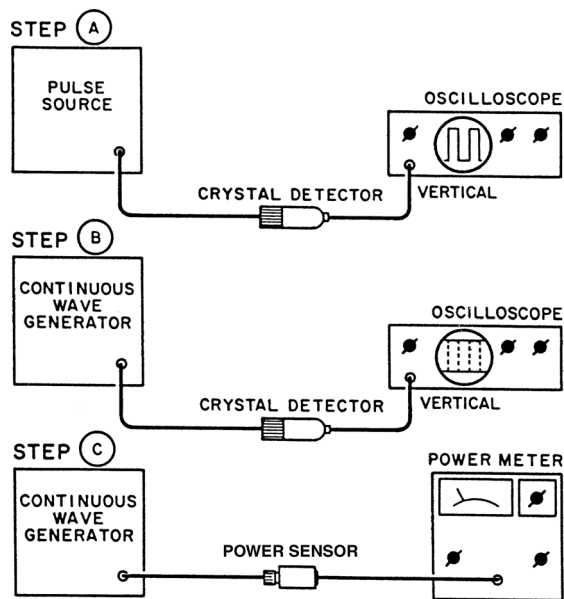

Figure 1 Peak power measurement
- 1 Connect equipment as shown in **Figure 1**, step A. Observe the pulse on a decoupled oscilloscope. Using a marking pencil, mark on the graticule the base-to-peak amplitude of the pulse envelope.